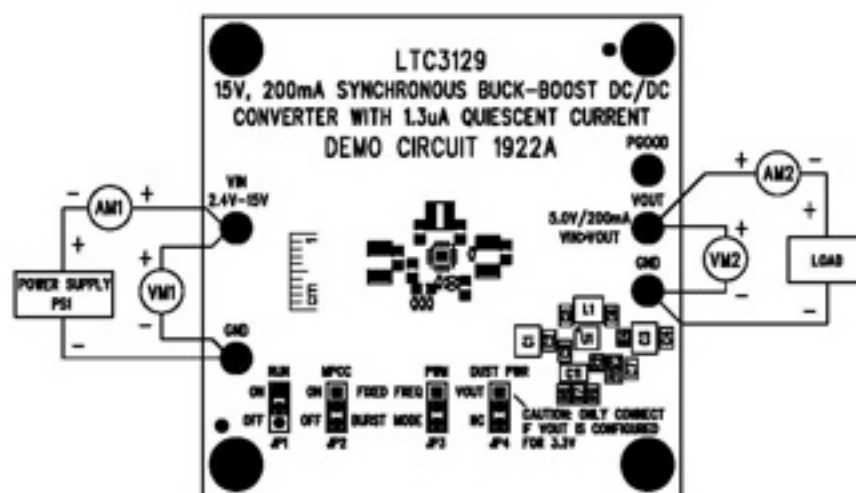

Figure 3. Proper Measurement Equipment Setup
Using short twisted pair leads for any power connections and with all loads and power supplies off, refer to Figure 3 for the proper measurement and equipment setup. The power supply (PS1) should not be connected to the circuit until told to do so in the procedure below.
2. With power OFF connect the power supply (PS1) as shown in Figure 3. If accurate current measurements are desired (for efficiency calculations for example) then connect an ammeter (AM1) in series with the supply as shown. The ammeter is not required however.
3. Connect a 50mA load to V_{OUT} as shown in Figure 3 (100Ω for $V_{OUT} = 5V$). Connect an ammeter (AM2) if accurate current measurement or monitoring is desired.